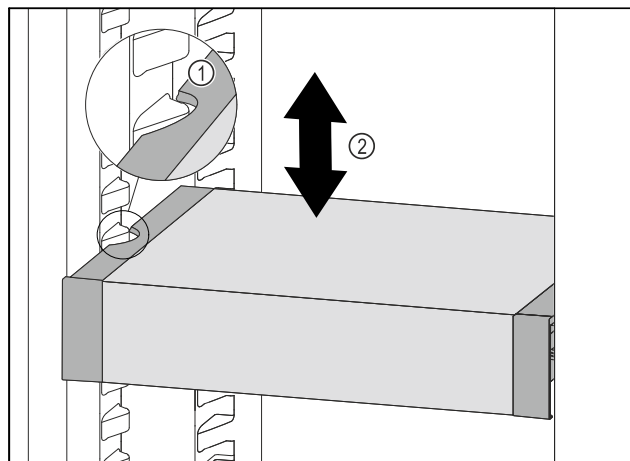

Fig. 180
- Pull VarioSafe forwards until the recesses in the side of the VarioSafe are at the level of the support rib in the refrigerator compartment. Fig. 180 (1)
- Move VarioSafe up or down in the refrigerator compartment until the desired height is reached. Fig. 180 (2)